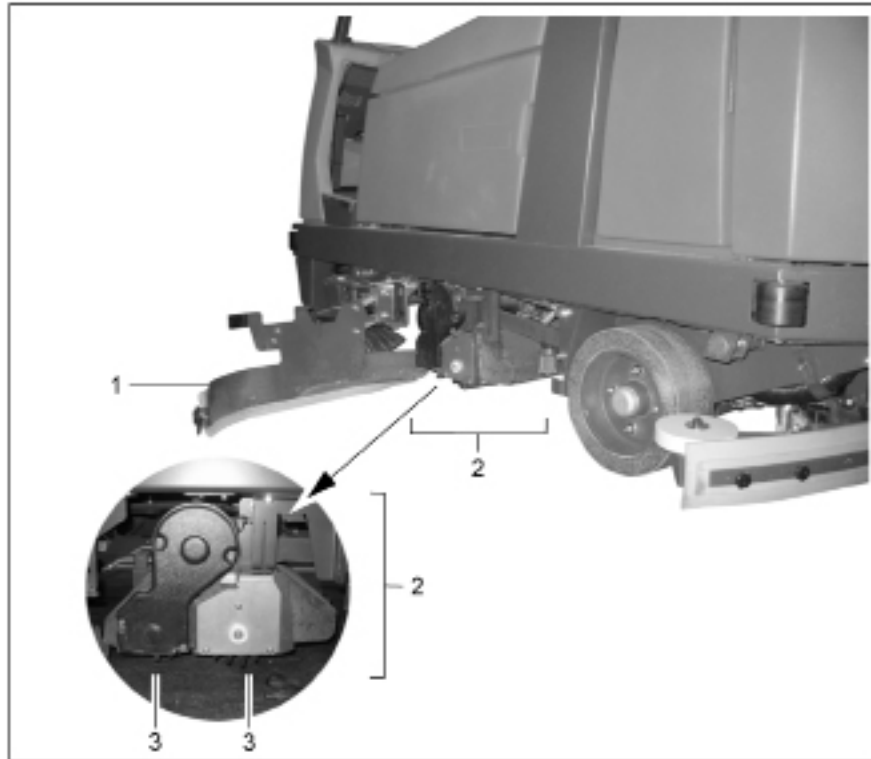
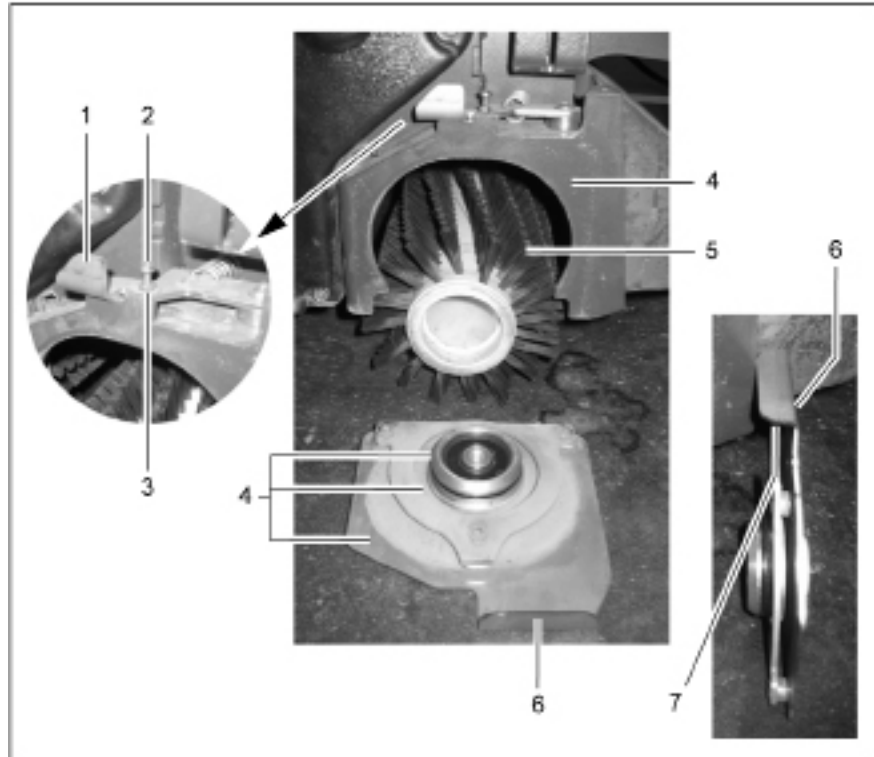

Fig 29
Fig 31
The rotary brush head (Fig. 29/2) may only be assembled, disassembled and adjusted by properly trained service personnel.
The two rotary brushes (Fig. 29/3) are not component parts of the delivery. They must be selected separately according to the task they are intended to fulfill (refer to Section 4) and installed according to the instructions on the rotary brush head (Fig. 29/2), refer to Section 2.3.1. Normally, however, the authorized PowerBoss workshop will install them for you prior to delivery.
The following applies prior to starting any maintenance work on the rotary brush head: Open the deflectors and move them to their service position (Fig. 29/1) (also refer to Section 2.3.1, Point 1).
1. Slide the locking lever (Fig. 31/1) to the middle of the device and hold it there.
2. Allow the brush holder (Fig. 31/6) to lower under its own weight and then pull out.
3. Release the locking lever (Fig. 31/1).
Pull out the rotary brush (Fig. 31/5), overcoming its resistance. Also refer to Section 2.3.1 (reverse working sequence).
2. Mount the brush holder (Fig. 31/6) on the rotary brush, press against the housing and then slide upwards as far as possible.
3. Pivot the locking lever (Fig. 31/1) back under the brush holder as far as possible.
Each time the rotary brushes are changed, all the contact surfaces (Fig. 31/4 and Fig. 29/7) must be thoroughly cleaned with a damp cloth, with a little cleaning agent added, if necessary.
1. Remove the brush holder (Fig. 31/6) (refer to paragraph "Removing the brush holder").
2. Loosen the counternut (Fig. 31/3).
3. Screw the oval-head screw (Fig. 31/2) in or out.
The oval-head screw (Fig. 31/2) is adjusted correctly when it lightly scrapes under the brush holder (Fig. 31/7).
5. Remove the brush holder (Fig. 31/6) (refer to paragraph "Removing the brush holder") and adjust the oval-head screw (Fig. 31/2) until it is at the correct height (repeat Step 4 several times if necessary).
6. Tighten the counternut (Fig. 31/3).